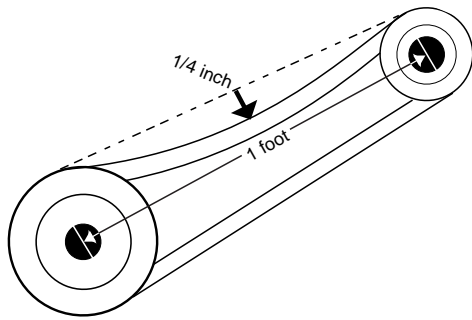

Figure 1
- Adjust the motor plate until proper tension is reached. For proper tension, a deflection of approximately 1/4" per foot of center distance should be obtained by firmly pressing the belt. Refer to *Figure 1*.